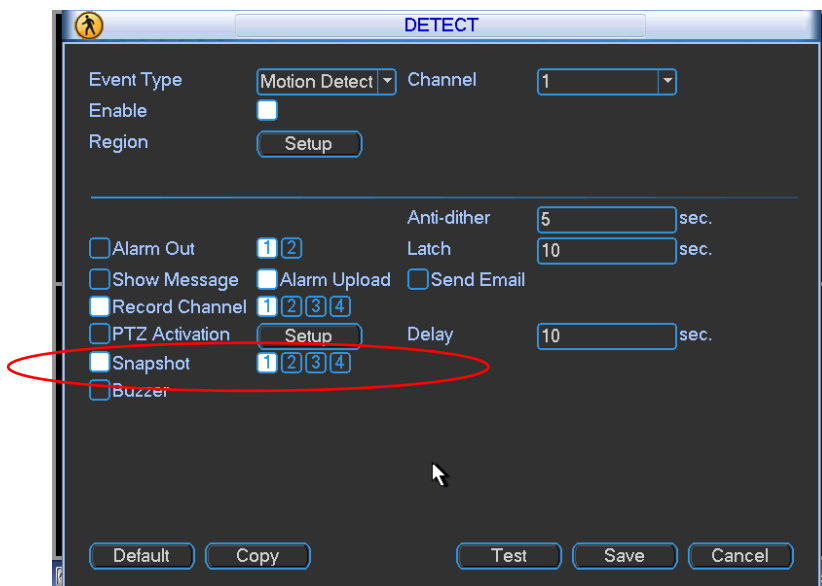
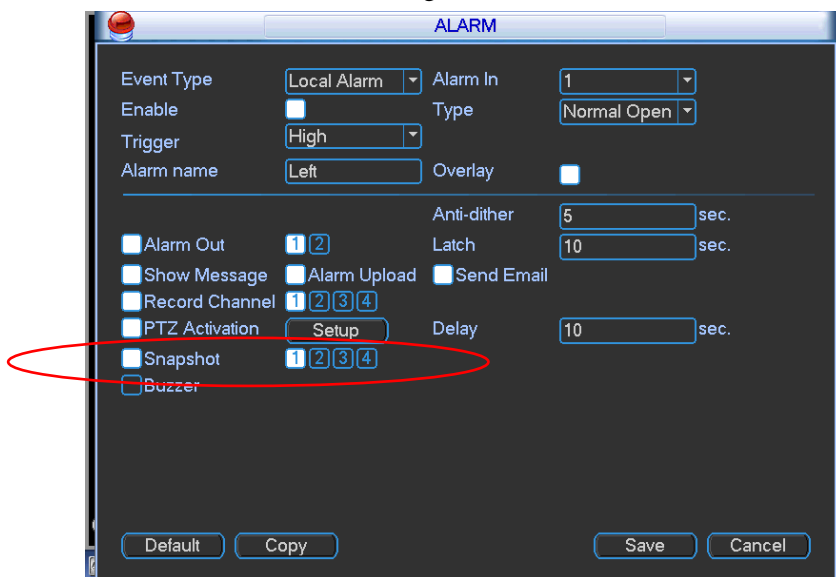

Figure 4-46
Figure 4-47
- In Detect interface please enable snapshot function for specified channels (Figure 4-46). Or in alarm interface (Figure 4-47) please enable snapshot function for specified channels.